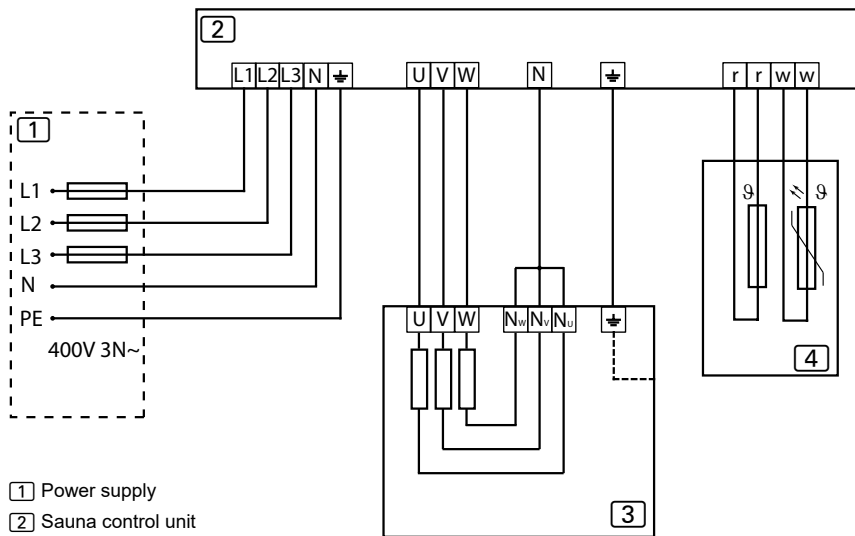

Figure 9. Connection diagram 400V 3N~
- **Mechanical ventilation:** The supply air vent must be located in the upper part of the sauna so that it does not interfere with the operation of the temperature sensor. (Figure 9. Minimum distance from the supply air vent to the temperature sensor)